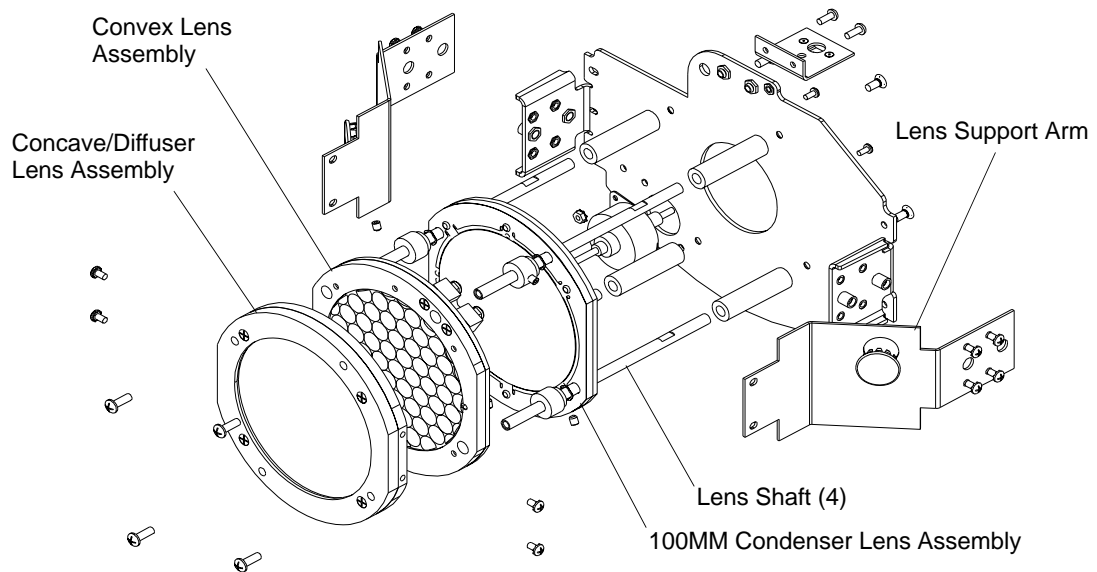

Figure 2-9: Concave Lens Assembly Replacement
- Step 3. Remove four 6-32 x 3/16" PPB screws and four #6 lock washers securing concave lens assembly to lens support arm (as indicated in Figure 2-9).